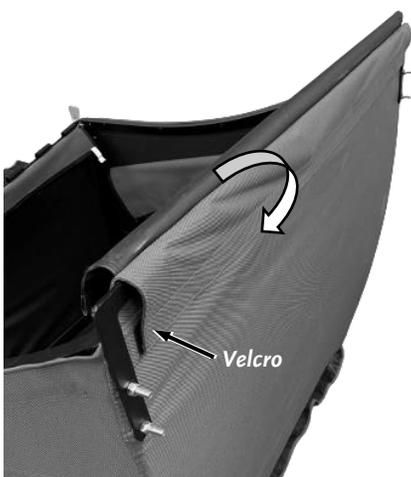

Figure 51
3. Next cover the Outer Link Assembly by wrapping the rear door flap overtop and velcroing it against the back wall (**Figure 51**).